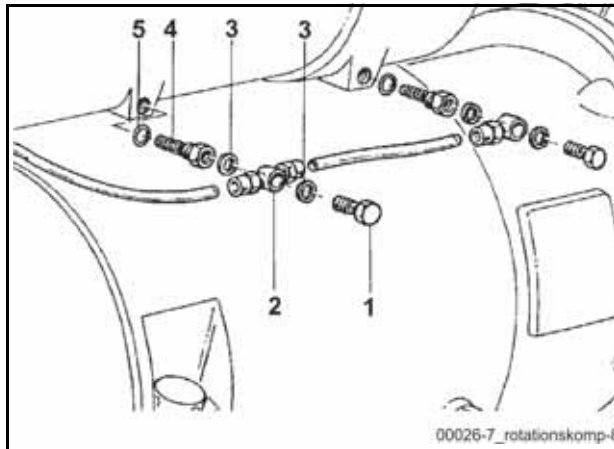

Fig. 353 Oil return valves
- Loosen the hollow screws **(1)** (**Fig. 353**).